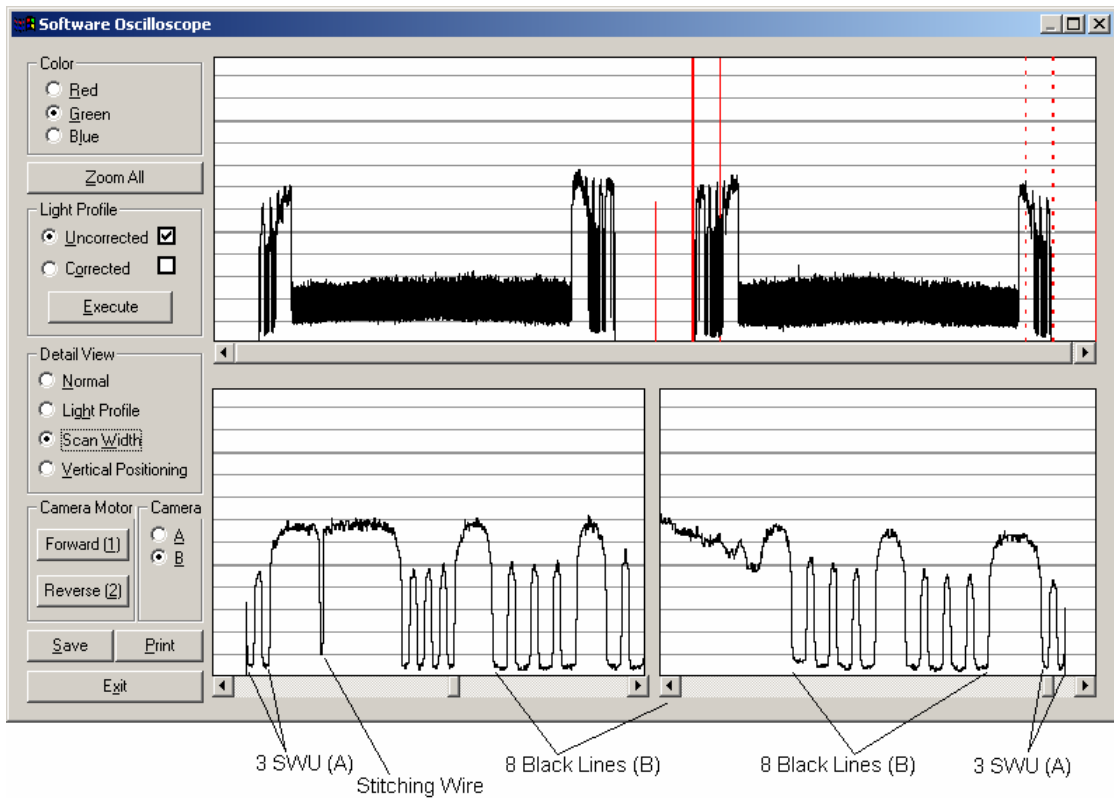

Fig. 4-22 COUGAR 36, CHAMELEON 36, PREMIER 36, Scan-Width, Camera B
- Fig. 4-22 COUGAR 36, CHAMELEON 36, PREMIER 36, Scan-Width (B), page 103